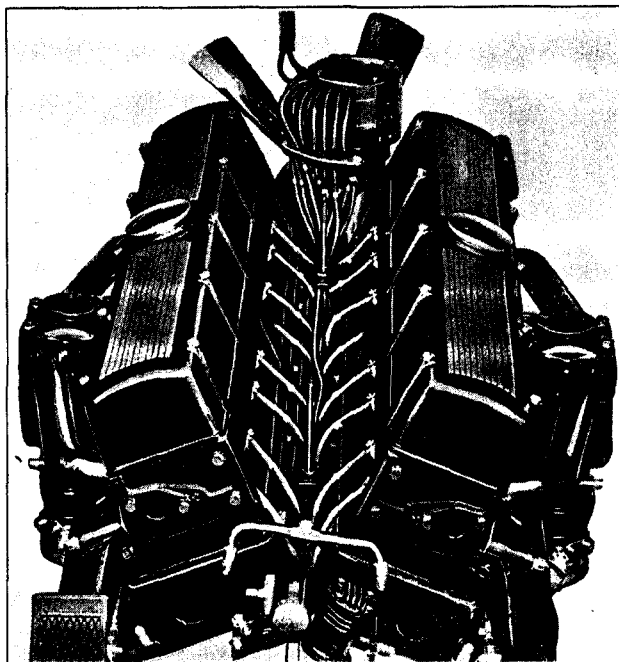

Fig. 17. The numbers at the ends of the spark plug wires correspond to the cylinder numbers stamped below the spark plug holes.
**Spark Plugs:** The spark plugs and wires are concealed by the cover plate over the "V" between the cylinder blocks, and are easily accessible for inspection by removing the two knurled hand nuts. See Fig. 17. The AC type G-10 spark plugs should be used in the V-16, the same as in the 353. The standard spark plug gap adjustment is the same—.025" to .028".